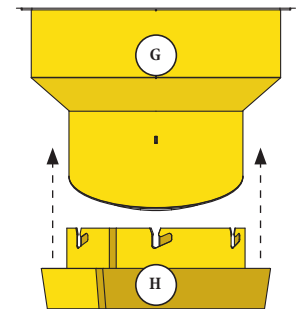

FIG. 12b
- Align the tabs on the Cyclone's Hopper (G) with the cutouts in the Cassette Holder (H) [FIG. 12b].